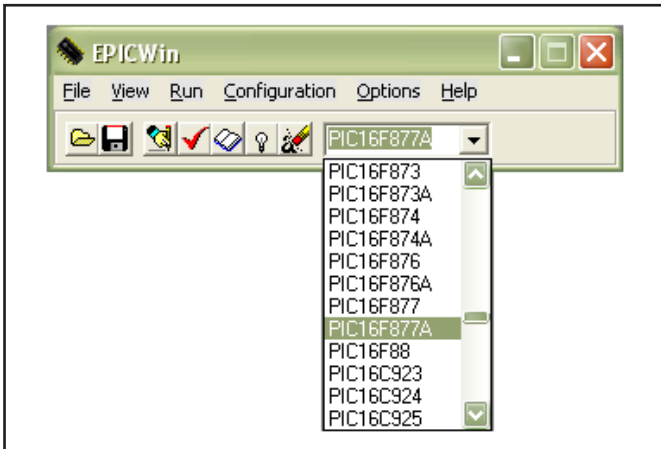

Figure 6.
2. In order to upload the correct program from the interface module, the correct processor has to be selected (PIC16F877A) from the drop down menu. See figure 6.